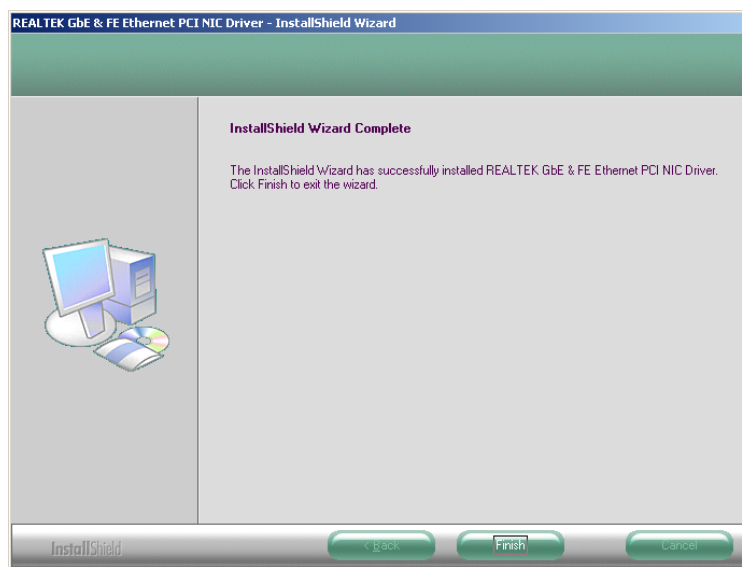

Figure 7-39: RTL8110SC Driver Installation Complete
Step 17: After the driver installation process is complete, a confirmation screen appears (Figure 7-39).